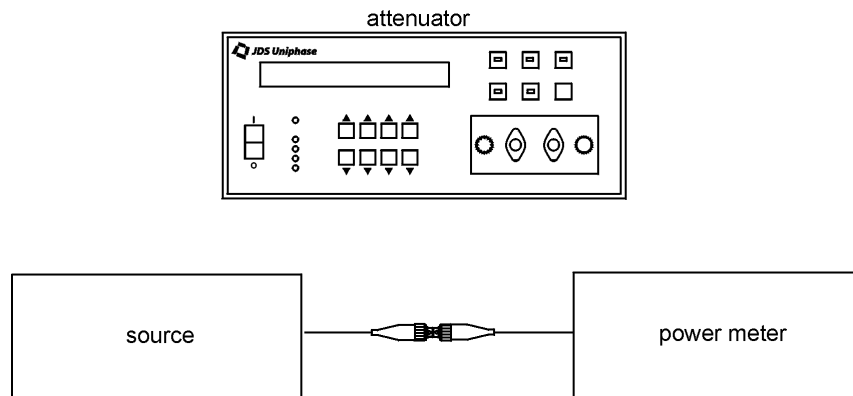

Figure 11: Insertion Loss Verification Setup
2. Connect the source directly to the power meter by bypassing the attenuator and connecting the two jumpers or pigtails together (Figure 11).